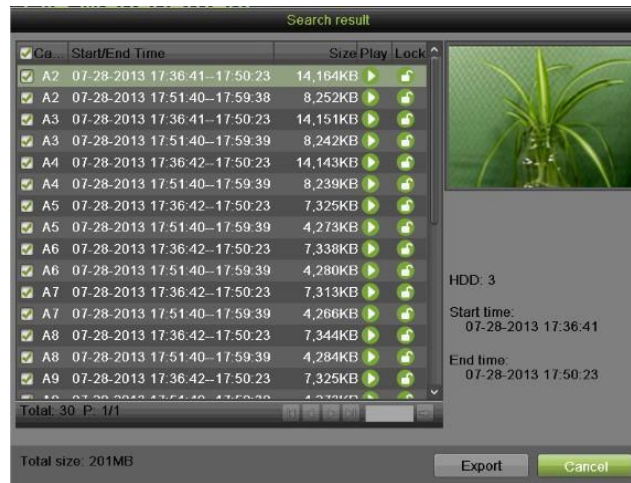

Figure 164 Search Result Interface
6. Click the Search button. A search result box will pop-up, as shown in Figure 164.